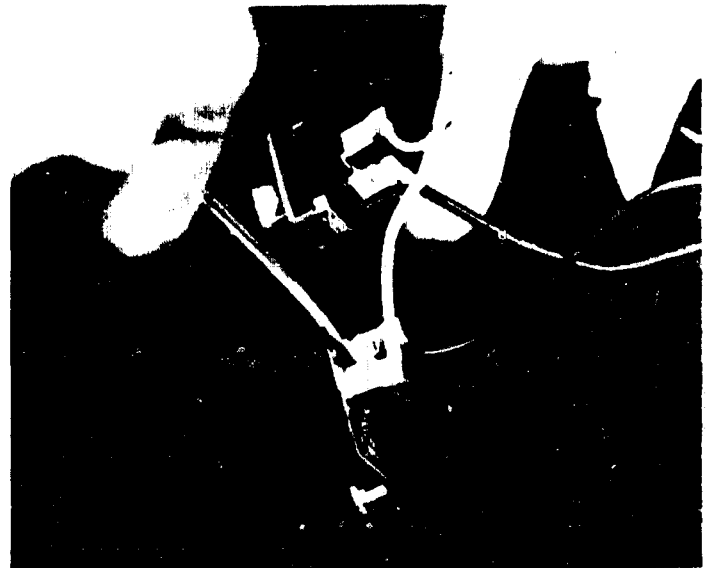

FIGURE 2
3. Detach the leads from the motor disconnect switch and circuit breaker located on the back side of the auxiliary contact cover. See Figure 2.